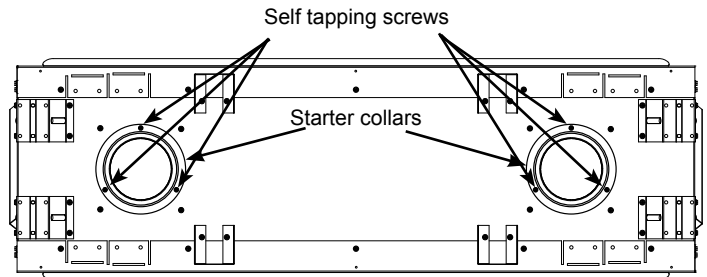

Figure 2. Attaching 6" starter collar
2. Place one 6" starter collar on the top of the fireplace and center over the left knockout opening. Secure with 3 supplied self-drilling screws. Repeat with the second starter collar over the right knockout opening. (Figure 2)